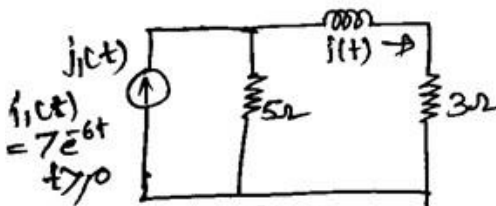

fig 6.2
23. In the network shown in fig 6.2 the capacitor C1 is charged to voltage $V_0 = 1000v$ and the switch K is opened at $t=0$. solve for d^2i_z/dt^2 at $t=0^+$